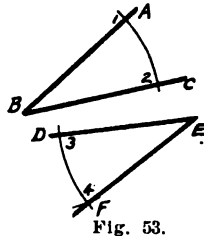

Fig. 53.
**Problem 5.** At a point on a given line to draw an angle equal to a given angle. (Fig. 53). Let ABC be the given angle and E be the given point on the line DE. With B as a center draw the arc 1, 2. With the same radius and E as center draw an arc cutting DE at 3. With 3 as a center and 1-2 as a radius draw the arc which cuts EF at 4. FED is then the required angle.